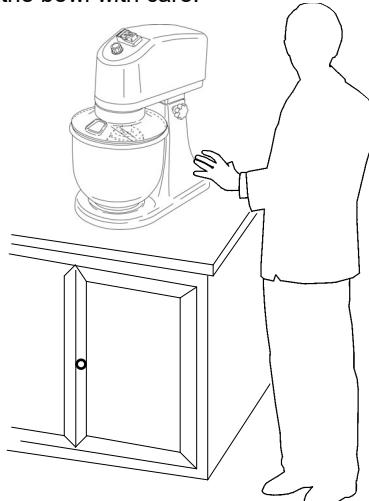

FIG. N. 7 - Correct posture
5. To prevent accidents, position yourself correctly; your body must be perpendicular to the countertop (refer to FIG. n. 7): do not force any of the machine components with